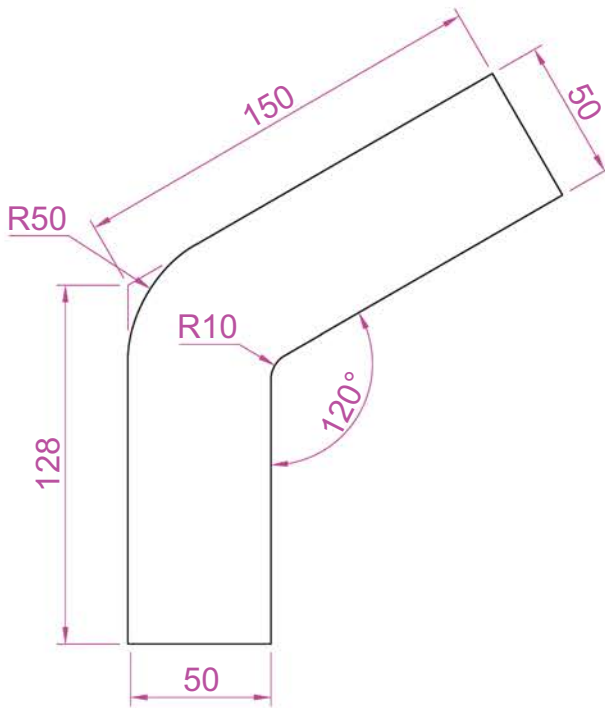

Fig. 18.22 Second example – 2D outlines in 3D space – outline to be extruded
1. Place the drawing area in the **Front** view and construct the outline Fig. 18.22.